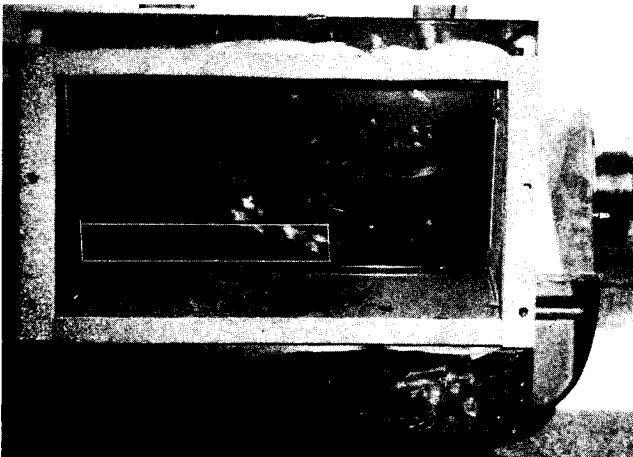

FIGURE 10
10. Lay the evaporator housing so the inboard portion, the side facing the firewall, is up. Starting at the lower left corner, mark off a 2-1/2" x 11-3/4" slot. You may wish to drill the corners for easier cutting. Cut the slot out (Figure 10).